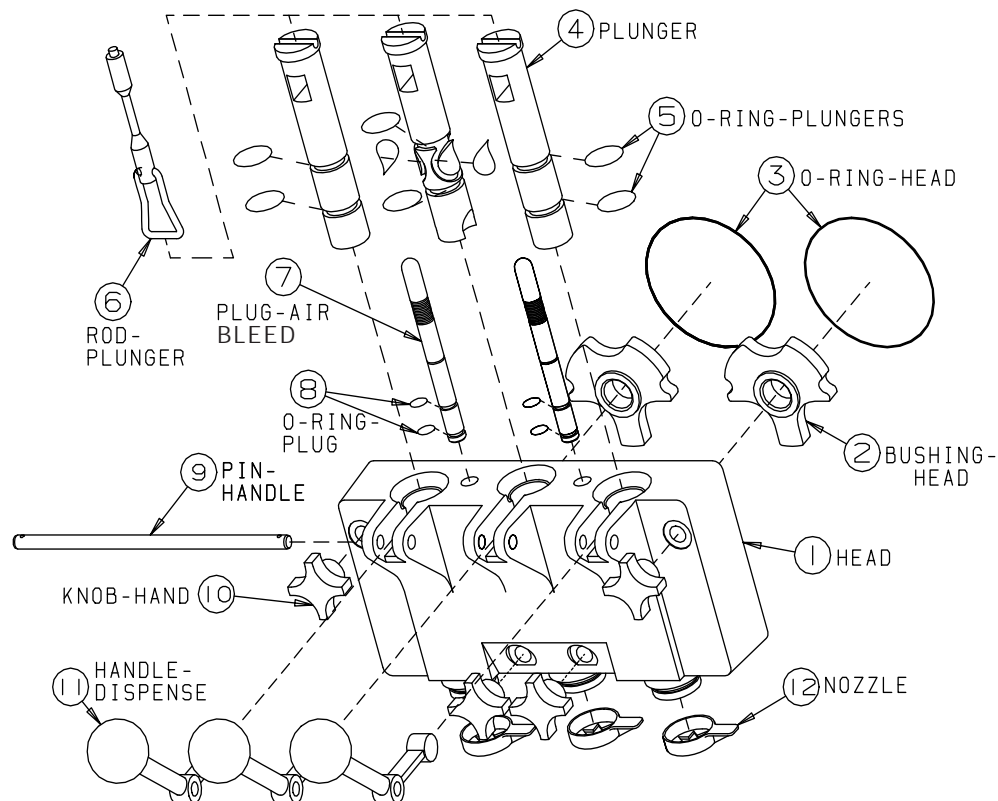

Figure 7-4 Dispense Head Assembly
6. (Refer to figure 7-4.) Install and then lubricate the O-rings on the dispensing plungers and insert all three halfway into the head.